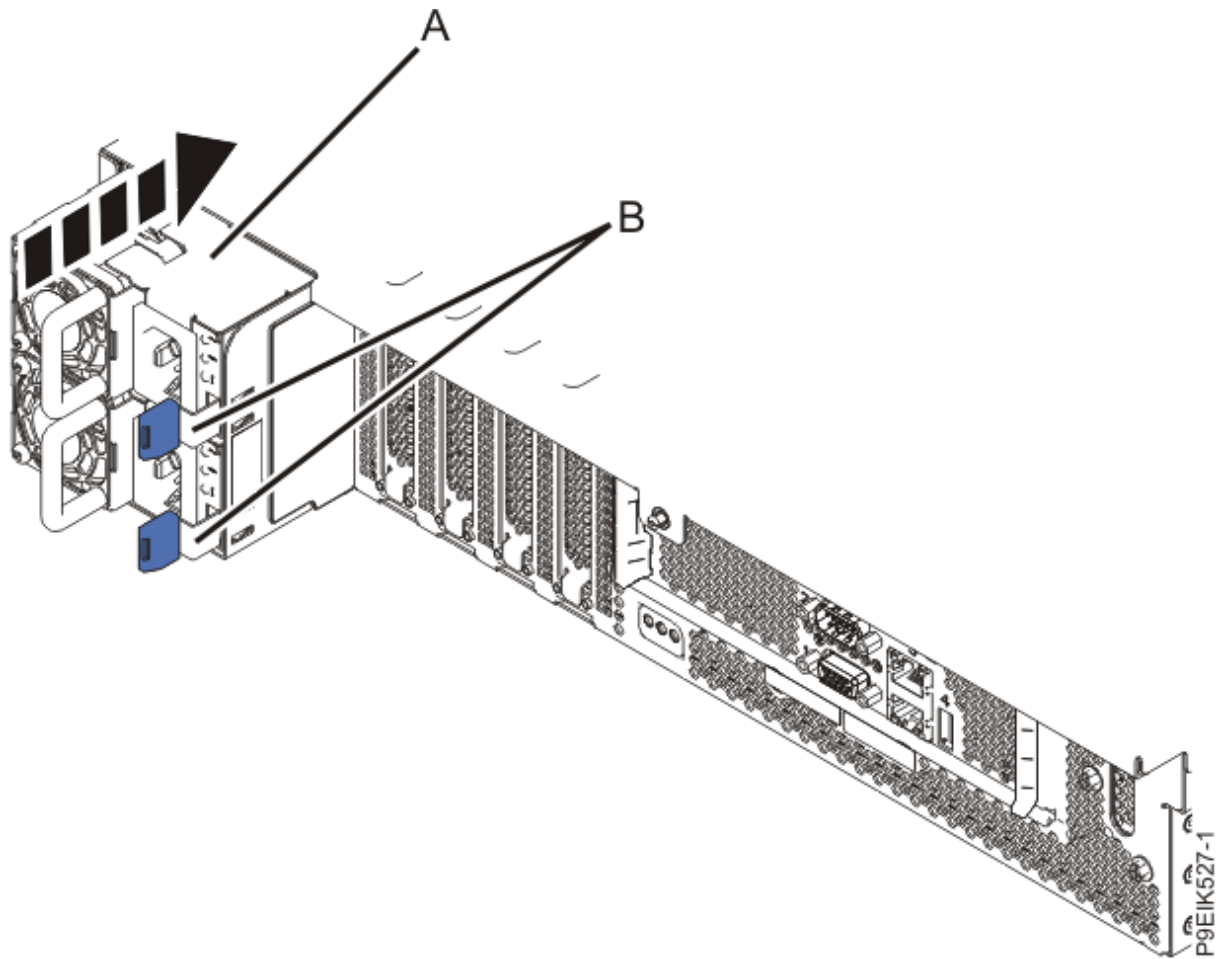

Figure 43. Replacing the power supplies in the system
4. Replace the power supplies as shown in Figure 43 on page 91.